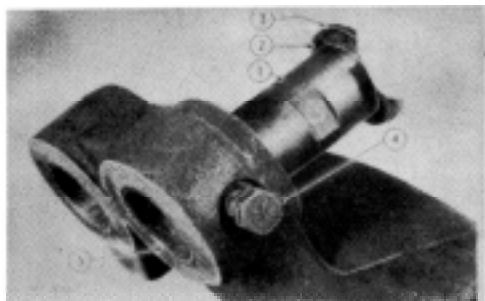

Fig. 9 Brake Spider with Removable Anchor Pins
5. Cut lock wire and remove anchor pin lock bolt (Fig. 9). The anchor pin can then be removed. As the pins are forced out, the shoes will be free.